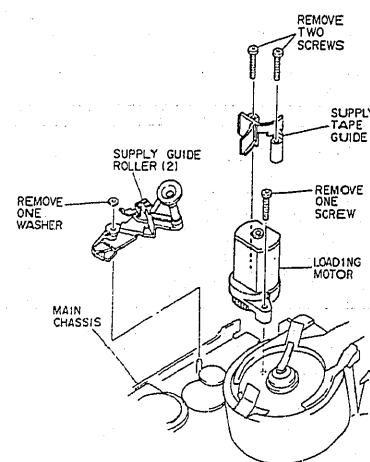

Fig. 2-52
- 1) Remove one (1) washer holding the supply guide roller (2). (See Fig. 2-52)
2) Remove two (2) screws holding the supply tape guide.
3) Remove the supply guide roller (2) and supply tape guide from the main chassis.
- (2) Loading Motor
- 4) Remove one (1) screw and remove the loading motor from the main chassis. (See Fig. 2-52)